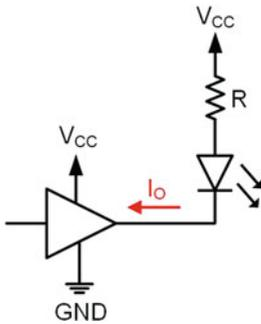

Fig. 3.43
- 3.4.57** For the LED driver configuration shown in Fig. 3.43 where an output of LOW on the driver will turn on the LED, what is the output current (I_O) if $V_{CC} = +5\text{v}$, $R = 50\ \Omega$, and the LED has a forward voltage of $V_f = 1.9\text{v}$?
- 3.4.58** For the LED driver configuration shown in Fig. 3.43 where an output of LOW on the driver will turn on the LED, what is the output current (I_O) if $V_{CC} = +5\text{v}$, $R = 100\ \Omega$, and the LED has a forward voltage of $V_f = 1.9\text{v}$?
- 3.4.59** For the LED driver configuration shown in Fig. 3.43 where an output of LOW on the driver will turn on the LED, what is the output current (I_O) if $V_{CC} = +5\text{v}$, $R = 1\ \text{k}\Omega$, and the LED has a forward voltage of $V_f = 1.9\text{v}$?
- 3.4.60** For the LED driver configuration shown in Fig. 3.43 where an output of LOW on the driver will turn on the LED, what is the output current (I_O) if $V_{CC} = +3.4\text{v}$, $R = 50\ \Omega$, and the LED has a forward voltage of $V_f = 1.9\text{v}$?
- 3.4.61** For the LED driver configuration shown in Fig. 3.43 where an output of LOW on the driver will turn on the LED, what is the output current (I_O) if $V_{CC} = +3.4\text{v}$, $R = 100\ \Omega$, and the LED has a forward voltage of $V_f = 1.9\text{v}$?
- 3.4.62** For the LED driver configuration shown in Fig. 3.43 where an output of LOW on the driver will turn on the LED, what is the output current (I_O) if $V_{CC} = +3.4\text{v}$, $R = 1\ \text{k}\Omega$, and the LED has a forward voltage of $V_f = 1.9\text{v}$?
- 3.4.63** For the LED driver configuration shown in Fig. 3.43 where an output of LOW on the driver will turn on the LED, if $V_{CC} = +5\text{v}$, $R = 75\ \Omega$, $V_f = 1.9\text{v}$, and $I_{O-MAX} = 25\ \text{mA}$, is the maximum output current specification violated?
- 3.4.64** For the LED driver configuration shown in Fig. 3.43 where an output of LOW on the driver will turn on the LED, if $V_{CC} = +5\text{v}$, $R = 150\ \Omega$, $V_f = 1.9\text{v}$, and $I_{O-MAX} = 25\ \text{mA}$, is the maximum output current specification violated?
- 3.4.65** For the LED driver configuration shown in Fig. 3.43 where an output of LOW on the driver will turn on the LED, if $V_{CC} = +5\text{v}$, $R = 500\ \Omega$, $V_f = 1.9\text{v}$, and $I_{O-MAX} = 25\ \text{mA}$, is the maximum output current specification violated?
- 3.4.66** For the LED driver configuration shown in Fig. 3.43 where an output of LOW on the driver will turn on the LED, if $V_{CC} = +3.4\text{v}$, $R = 75\ \Omega$, $V_f = 1.9\text{v}$, and $I_{O-MAX} = 15\ \text{mA}$, is the maximum output current specification violated?
- 3.4.67** For the LED driver configuration shown in Fig. 3.43 where an output of LOW on the driver will turn on the LED, if $V_{CC} = +3.4\text{v}$, $R = 150\ \Omega$, $V_f = 1.9\text{v}$, and $I_{O-MAX} = 15\ \text{mA}$, is the maximum output current specification violated?
- 3.4.68** For the LED driver configuration shown in Fig. 3.43 where an output of LOW on the driver will turn on the LED, if $V_{CC} = +3.4\text{v}$, $R = 500\ \Omega$, $V_f = 1.9\text{v}$, and $I_{O-MAX} = 15\ \text{mA}$, is the maximum output current specification violated?
- 3.4.69** For the LED driver configuration shown in Fig. 3.43 where an output of LOW on the driver will turn on the LED with $V_{CC} = +5\text{v}$ and $V_f = 1.9\text{v}$, calculate the value of the resistor (R) in order to set the current through the LED to be $5\ \text{mA}$.
- 3.4.70** For the LED driver configuration shown in Fig. 3.43 where an output of LOW on the driver will turn on the LED with $V_{CC} = +5\text{v}$ and $V_f = 1.9\text{v}$, calculate the value of the resistor (R) in order to set the current through the LED to be $12\ \text{mA}$.
- 3.4.71** For the LED driver configuration shown in Fig. 3.43 where an output of LOW on the driver will turn on the LED with $V_{CC} = +5\text{v}$ and $V_f = 1.9\text{v}$, calculate the value of the resistor (R) in order to set the current through the LED to be $15\ \text{mA}$.
- 3.4.72** For the LED driver configuration shown in Fig. 3.43 where an output of LOW on the driver will turn on the LED with $V_{CC} = +3.4\text{v}$ and $V_f = 1.9\text{v}$, calculate the value of the resistor (R) in order to set the current through the LED to be $5\ \text{mA}$.
- 3.4.73** For the LED driver configuration shown in Fig. 3.43 where an output of LOW on the driver will turn on the LED with $V_{CC} = +3.4\text{v}$ and $V_f = 1.9\text{v}$, calculate the value of the resistor (R) in order to set the current through the LED to be $12\ \text{mA}$.
- 3.4.74** For the LED driver configuration shown in Fig. 3.43 where an output of LOW on the driver will turn on the LED with $V_{CC} = +3.4\text{v}$ and $V_f = 1.9\text{v}$, calculate the value of the resistor (R) in order to set the current through the LED to be $15\ \text{mA}$.